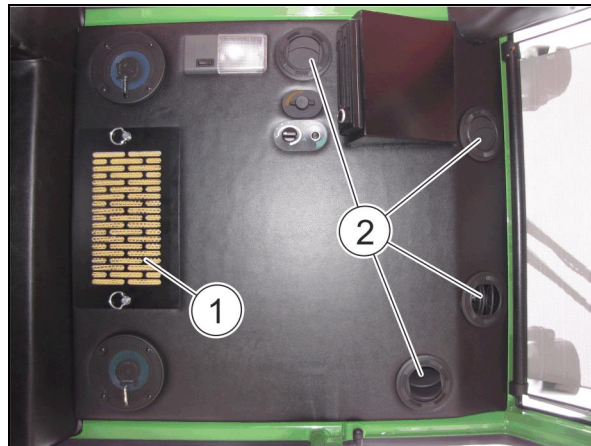
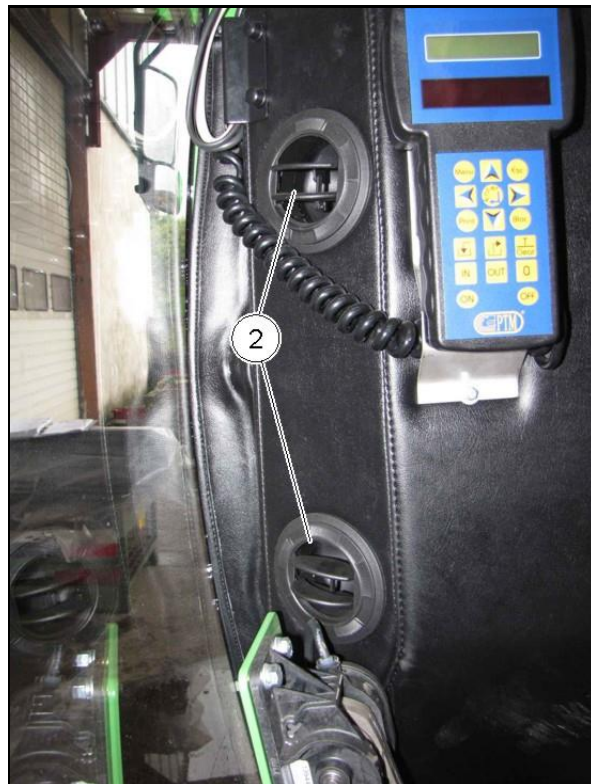

Fig. 38
Fig. 39
Fresh outdoor air flows into the cabin compartment through the open ventilation nozzles (2) in the cabin ceiling (Fig. 38) and in the footwell (Fig. 39).